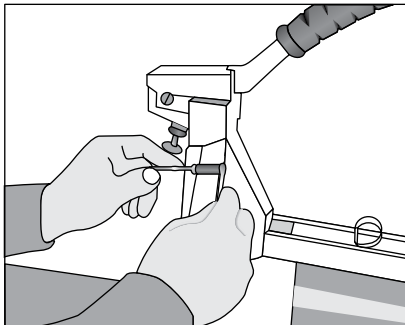

Figure 10
1. Loosen screws and nut with an 8 mm wrench and 4 mm Allen wrench. (See Figure 10)